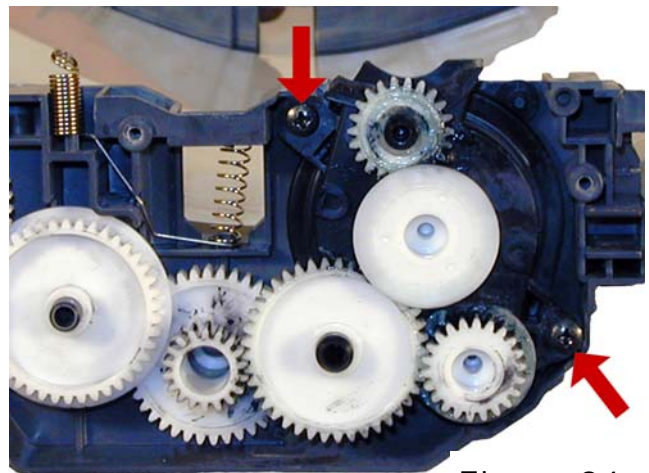

Figure 24
17) On the large gear side, remove the two screws from the gear cover. See Figure 24